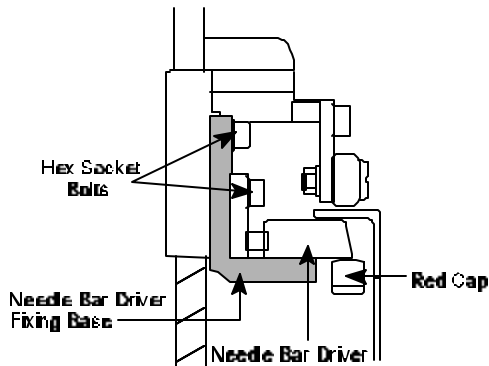

Figure 12
42. Using 3 mm Allen Wrench, **loosen** top and bottom hex socket bolts on Needle Bar Driver Fixing Base. See *Figure 12*.